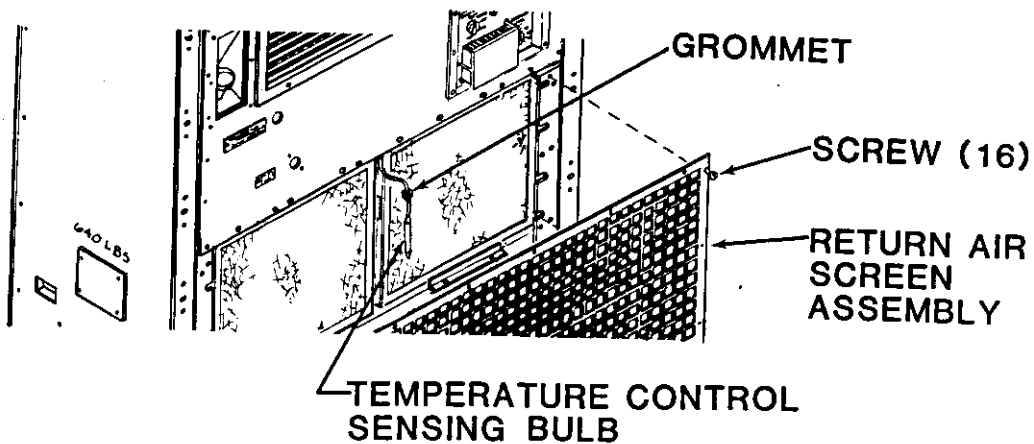

Figure 5-10. Control Panel Removal (Step 3)
- (1) Loosen 16 retained screws in return air screen assembly and remove screen. (See figure 5-10.)